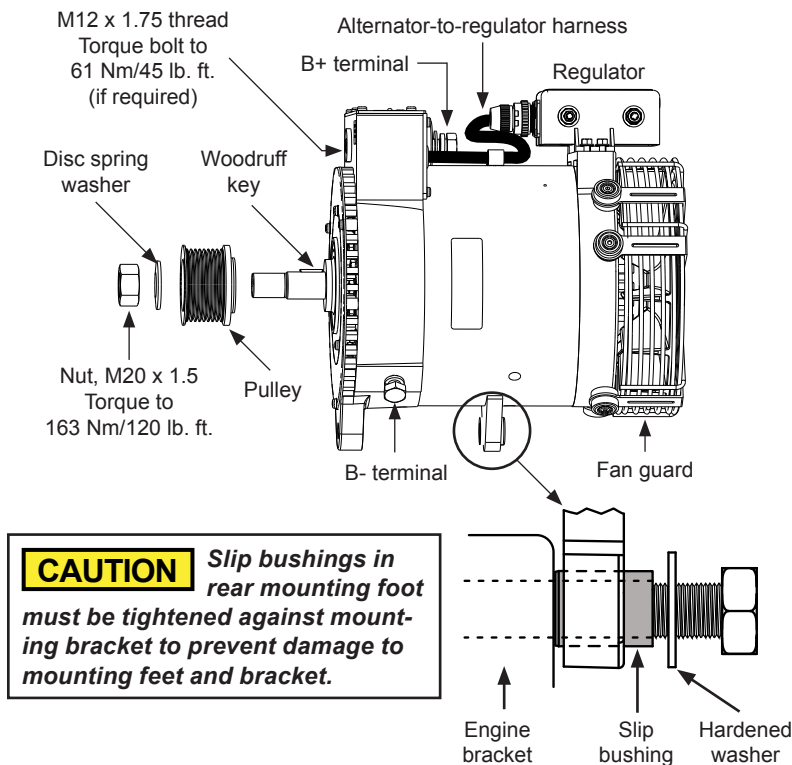

Figure 1: C653 Alternator Installation
2. Install pulley, furnished disc spring washer (beveled side facing pulley), and nut on shaft. Torque nut to 163 Nm/120 lb. ft. See Figure 1.
CAUTION Slip bushings in rear mounting foot must be tightened against mounting bracket to prevent damage to mounting feet and bracket. See detail in Figure 1.